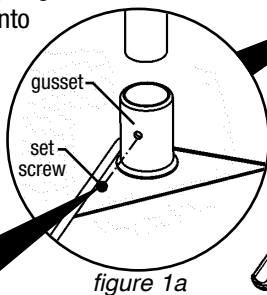

figure 1a
- Using allen wrench, secure legs into gussets (see figure 1a)—1 set screw* per gusset. Secure crossbrace assembly onto legs (6" min. from bottom) —1 set screw* per casting.